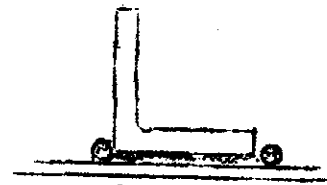

FIG. 4
10. Apply extra bead of PR 1422 A-2 along the edges of joints, such as rib/spar web etc. See Fig. 4.